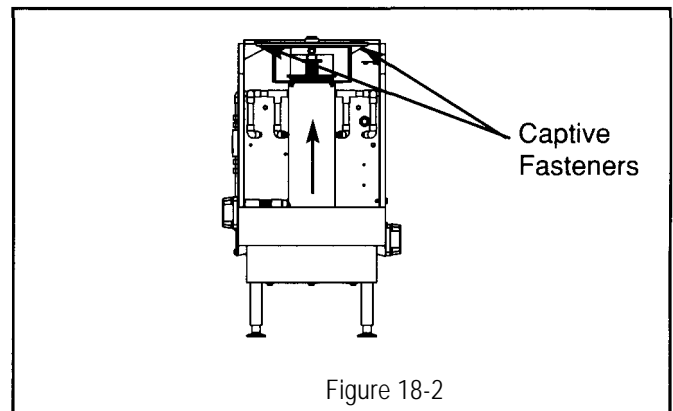

Figure 18-2
3. Remove auger-bearing bracket by turning the two captive fasteners counter clockwise and then pull bracket upward (see figure 18-2), replace if necessary.